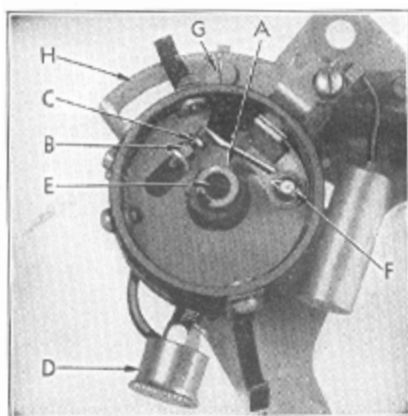

Figure 25
LUBRICATION—Every 1,000 miles the distributor shaft grease cup (D), Fig. 25, should be turned one complete turn. Keep the cup filled with water pump grease.
BREAKER POINT ADJUSTMENT—Correct breaker point setting is .020". These points are adjusted by removing the distributor cap and cranking the engine until the fiber block on the breaker arm is on the highest point of cam lobe (A), Fig. 25. Then loosen lock nut (B) and adjust screw (C) until the correct clearance is obtained. Tighten lock nut and re-check gap. Breaker points should be clean, smooth, and make full
The distributor rotation is *counter-clockwise*. Loosen the distributor advance arm screw (O), Fig. 25, and rotate the distributor housing *counter-clockwise* to the limit of the slot in quadrant (U). Take off the distributor cap and remove the central wire from the cap. Place the bare end $\frac{1}{8}$ " from the cylinder head. Turn on the ignition and rotate the distributor body *clockwise* slowly just until a spark jumps from the high tension wire to the cylinder head. Tighten screw (G), replace central cable in cap, and clamp cap on distributor. With the distributor cap in position, the metal strip on the rotor should be directly in line with No. 1 terminal. The cables should be in the cap terminals in the order, 1-5-3-6-2-4, following in a *counter-clockwise* rotation.